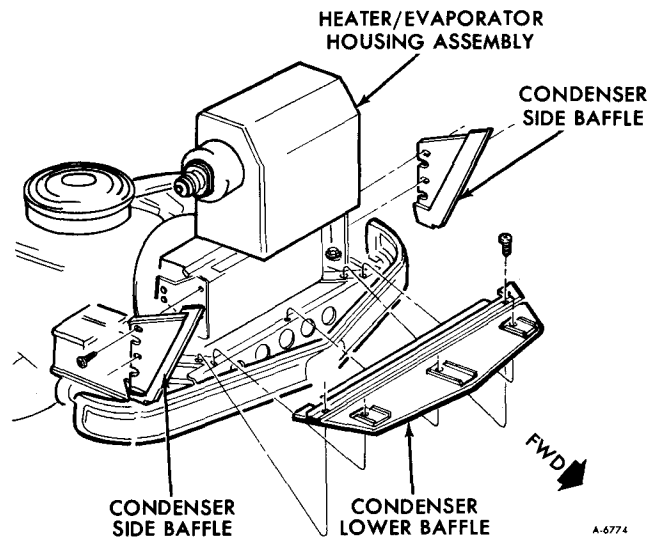

Figure 63—Condenser Baffles
4. If vehicle is equipped with 403 cubic inch engine, remove lower baffle and two side baffles from condenser (figure 63).
6. Install condenser baffles (where applicable). (Refer to figure 63.)